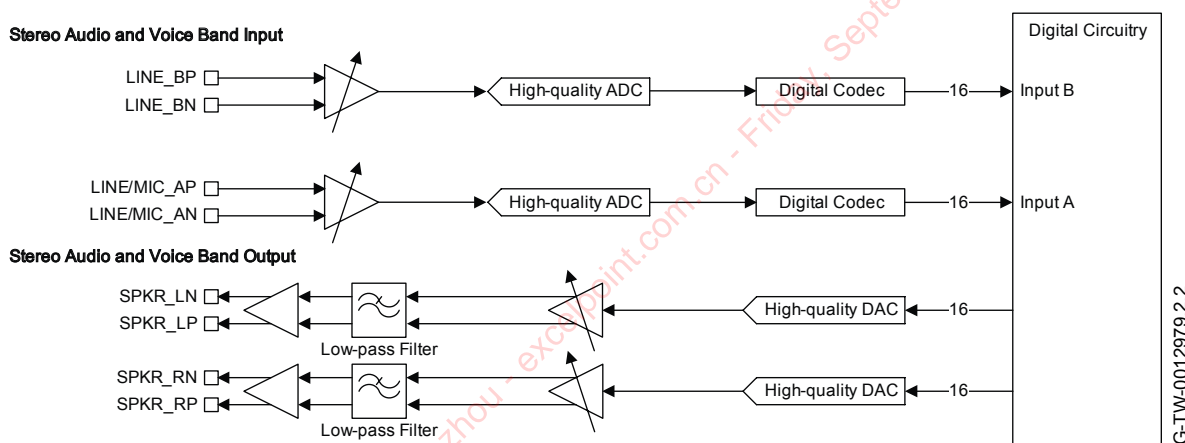

Figure 9.2: Audio Codec Input and Output Stages
Figure 9.2 shows the CSR8635 QFN consists of 2 high-quality ADCs:
- 2 fourth-order Sigma-Delta converters enabling 2 separate channels that are identical in functionality, as Figure 9.2 shows.